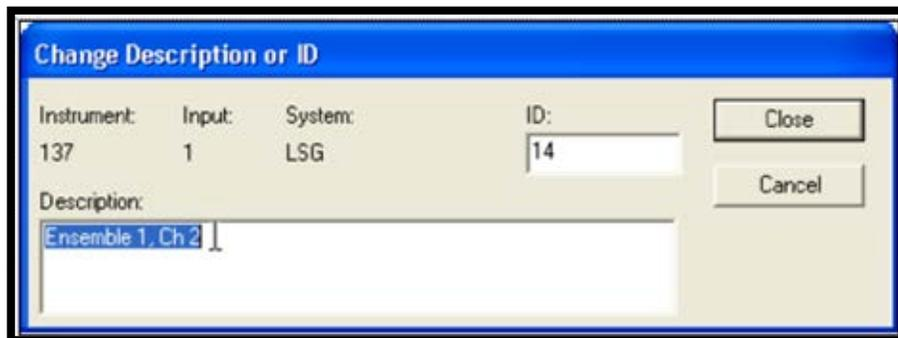

Figure 26. Change Detector Number or Description
- When the Configure Instruments dialog is displayed (see Figure 24, page 41), locate the Detector Name in the **Number & Description** section of the screen, double-click the entry to open its Change Description or ID dialog (Figure 26, page 41), and change the **ID** number to the new **Detector ID** specified in step (2) above.